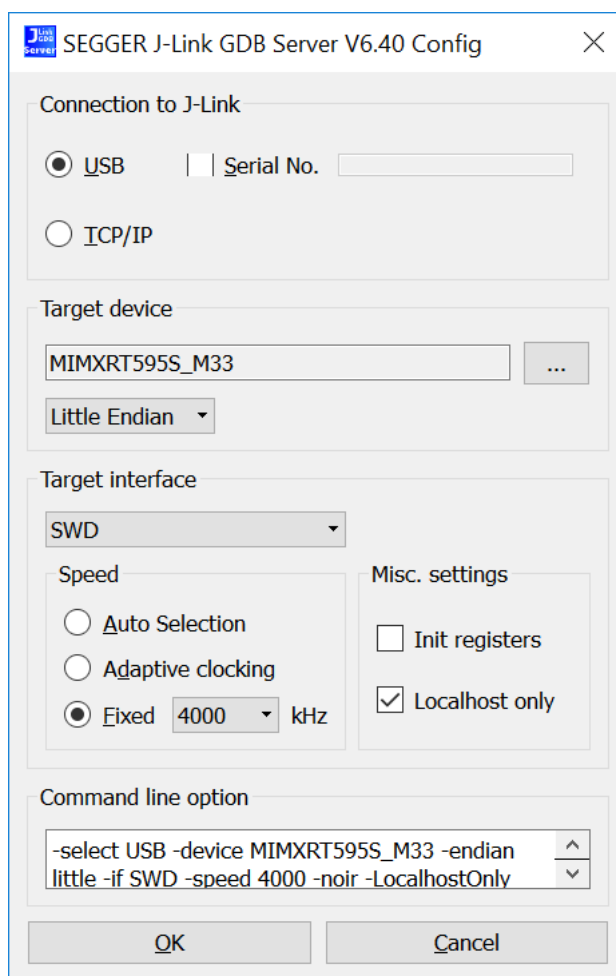

Figure 36. SEGGER J-Link GDB Server configuration
4. Modify the settings as shown in Figure 36. The target device selection chosen for this example is **MIMXRT595\_M33**.